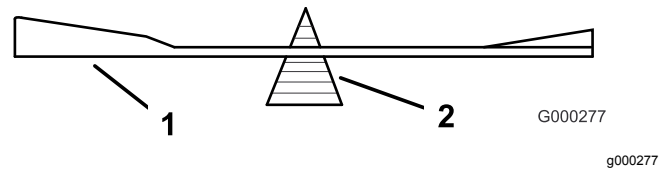

Figure 95
2. Check the balance of the blade by putting it on a blade balancer (Figure 95).